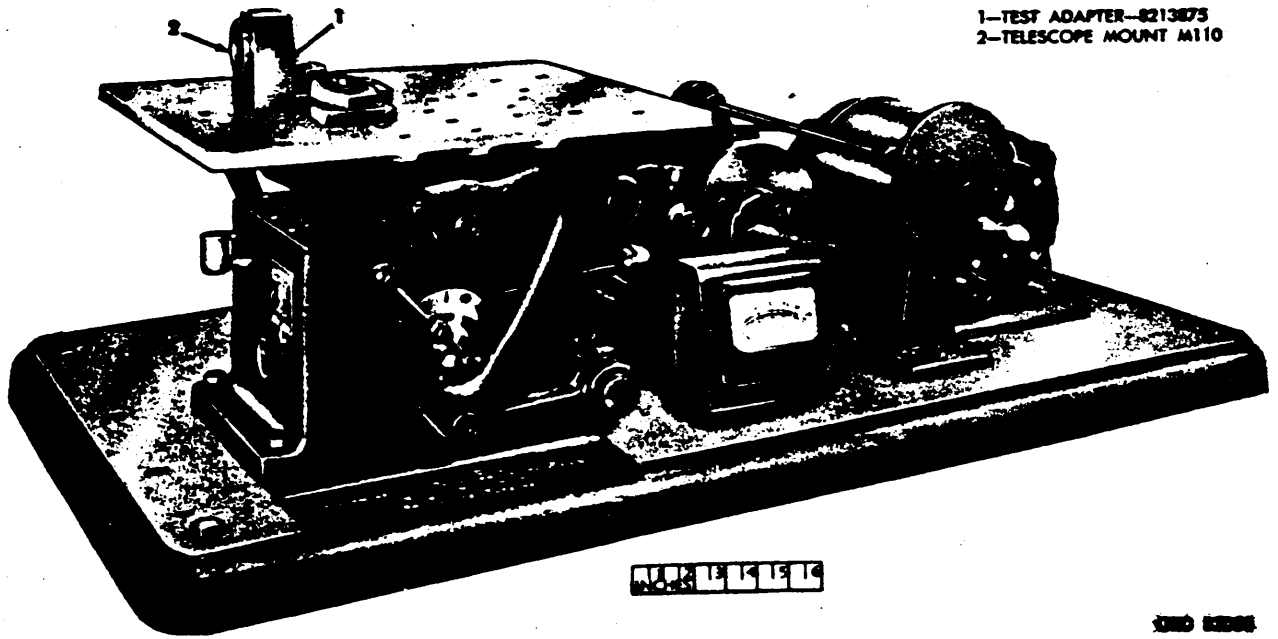

Figure 12. Vibration test.
a. Test adapter 8213875 and necessary clamps (fig. 12) should be used to secure the telescope mount to the vibration tester.